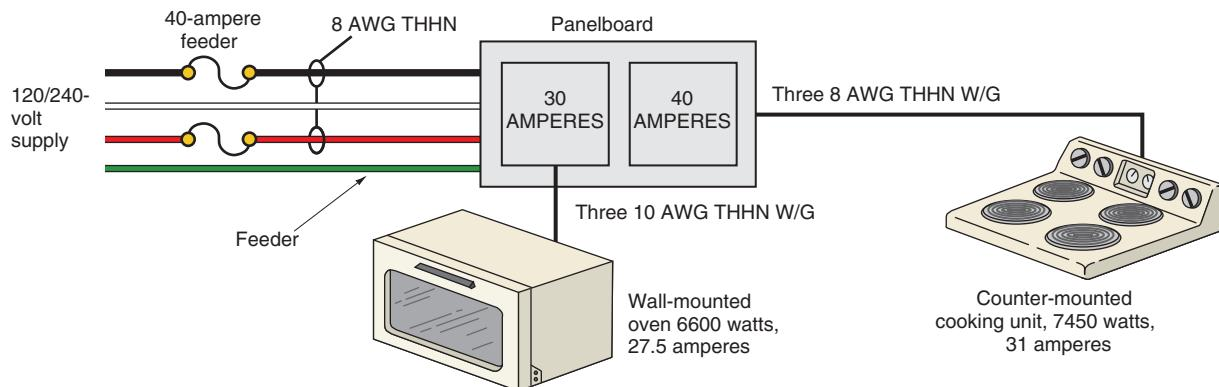

FIGURE 20-3 Appliances connected to a panelboard. (*Delmar/Cengage Learning*)
The tap rules can be ignored if a smaller panelboard is installed, as illustrated in Figure 20-3. There will be no taps—just branch circuits to each appliance sized for that particular appliance.
- Run one large feeder from the main panelboard to a panelboard located near the appliances, then run a separate branch circuit to each appliance. See Figure 20-3.